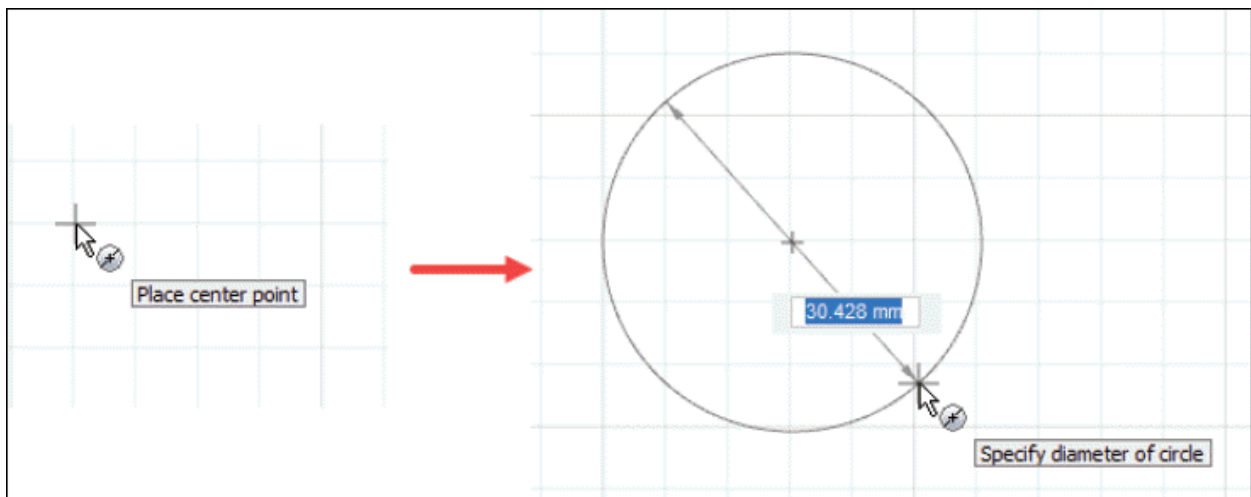
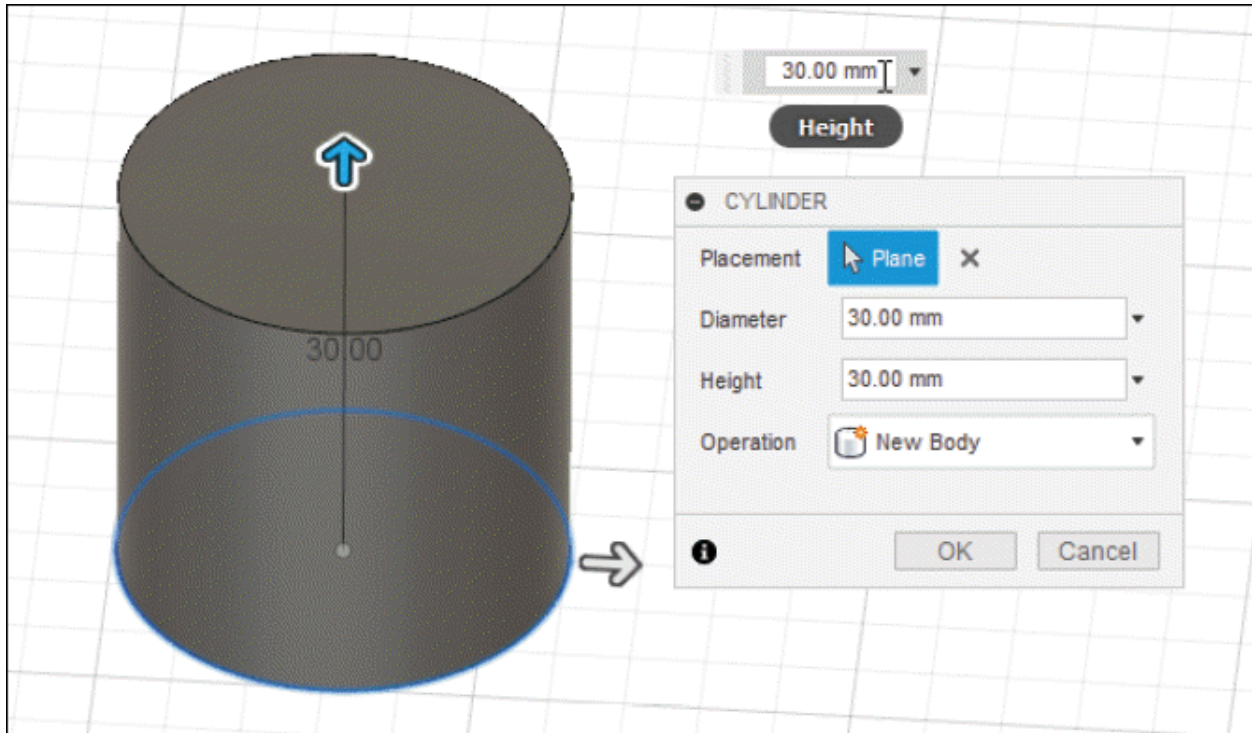

Figure-64. Specifying diameter of circle to create cylinder
Figure-65. Preview of cylinder with CYLINDER dialog box
- Type desired value of diameter in the floating window; refer to Figure-64 and press **ENTER** to create a sketch of circle. The **CYLINDER** dialog box will be displayed along with preview of cylinder; refer to Figure-65.